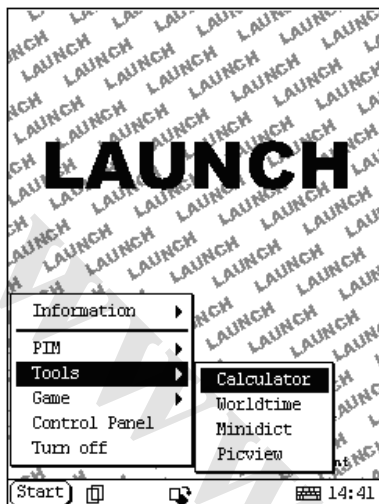

Figure 4-07
- 3) Select the function needed in the pop-up submenu. (Refer to Figure 4-07)